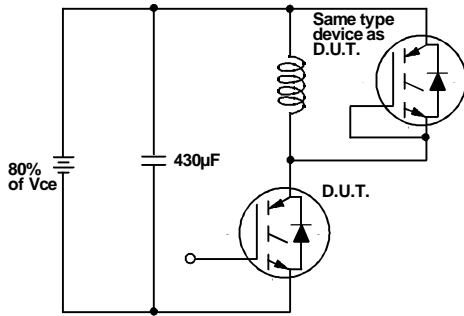

Fig.18a - Test Circuit for Measurement of I_{LM} , E_{on} , $E_{off}(\text{diode})$, t_{rr} , Q_{rr} , I_{rr} , $t_{d(on)}$, t_r , $t_{d(off)}$, t_f
- Fig. 18e - Macro Waveforms for Test Circuit of Fig. 18a